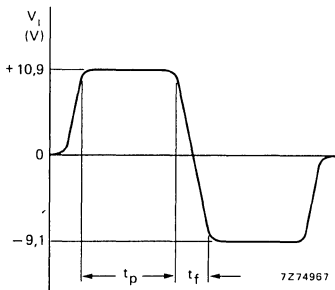

Fig. 4 Input waveform;  $t_f < 1 \text{ ns}; 10 \mu\text{s} < t_p < 500 \mu\text{s}; \delta = 0,02$ .
**Turn-off time (see Figs 4 and 5)**